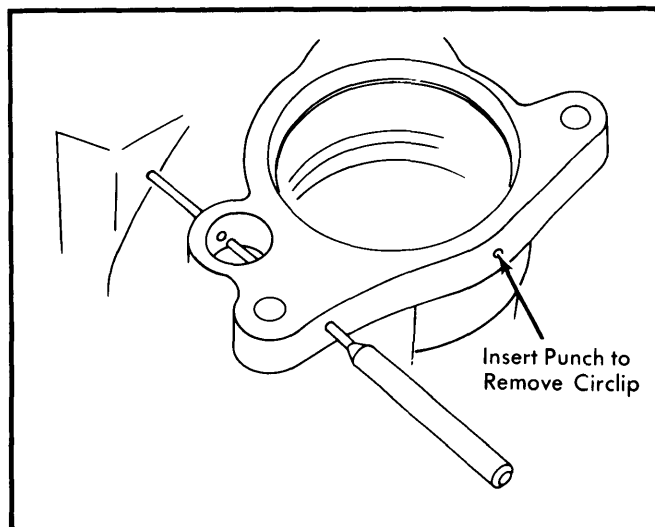

Fig. 4 Circlip Punch Hole Location & Removing Locking Pin on VT49 Pump
3) On rear of housing, push in cover and insert a punch through hole in housing (See Fig. 4), push in on punch and remove circlip and cover. Remove spring and "O" ring from housing. Push input shaft with pressure plate at cover end, rotor, cam ring and pressure plate at input end out of housing in rearward direction.
4) Remove locking clip from input shaft, then remove rotor and pressure plate. Remove cylinder pins from housing. Using a punch knock out locking pins in housing (See Fig. 4).
2) With steering in center position, turn adjusting screw counterclockwise. This forces pitman shaft, with housing, from steering gear case. Remove pitman shaft with cover. Remove "O" rings from cover. Remove lock ring and seal ring. Remove lock ring from pitman shaft and remove adjusting screw with thrust washers. See Fig. 4.